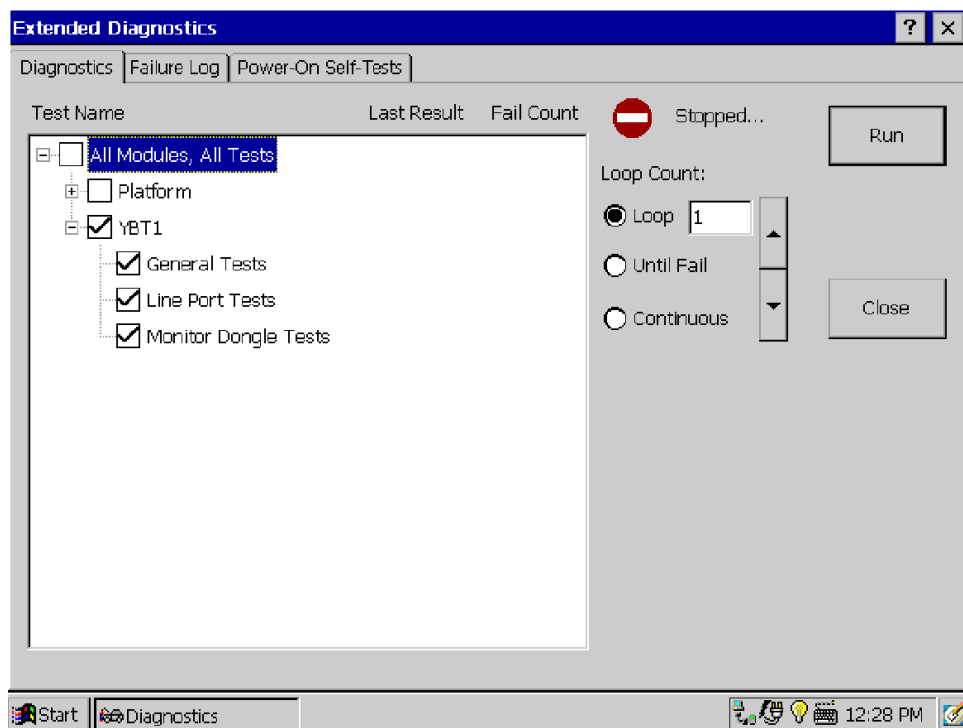

Figure C- 1: YBT1 diagnostic settings
10. Verify that General Tests, Line Port Tests, and Monitor Dongle Tests are checked. See Figure C-1.